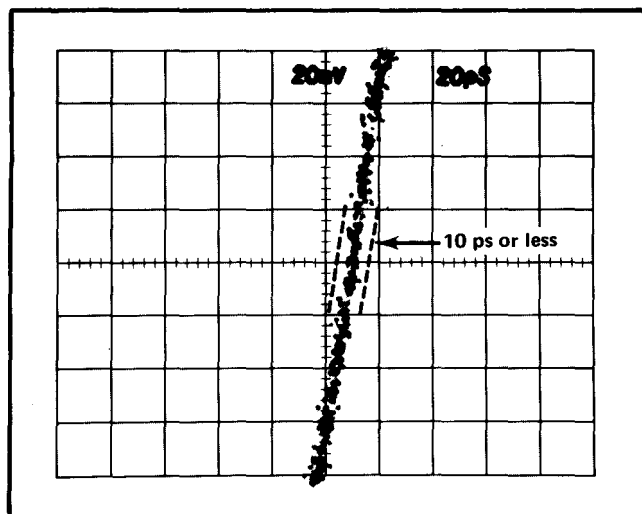

Fig. 5-5. Pulse jitter measurement of the S-6, S-52 and 7S12 system.
- b. CHECK that the pulse jitter is not greater than 10 ps (.5 div). Use only 90% of the trace width for this check. See Fig. 5-5 for this waveform.
b. CHECK that the pulse jitter is not greater than 20 ps (1 div). Use only 90% of the trace width for this check. See Fig. 5-5 for a similar waveform.